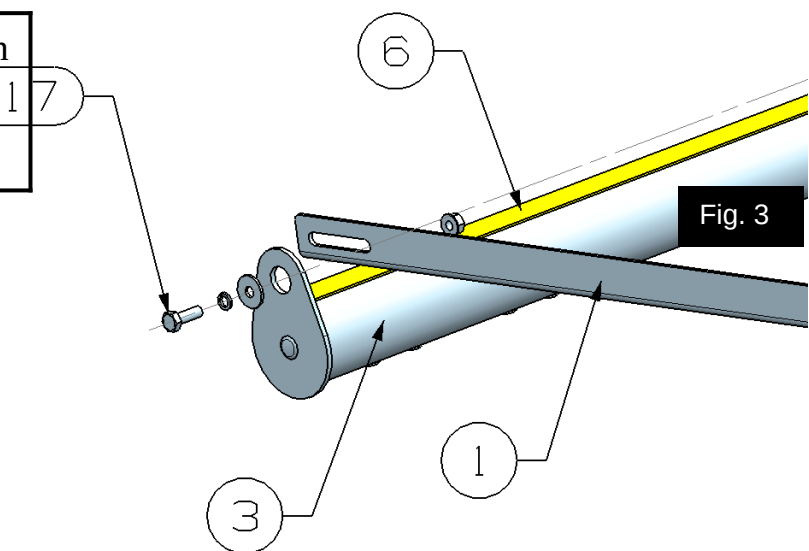

Fig. 3
Step 3: As shown in Fig.3. Put foam plate 3 on the extending bar, assembled the connecting plate with component . Do not tighten the screws.